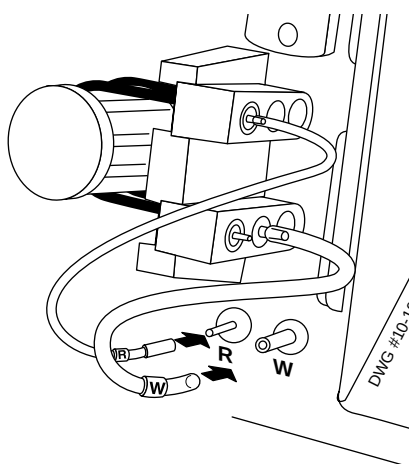

Figure 12.3 Connecting the Pump Tubing W and R-lines
10. Connect the R-pump tubing line to the R-labelled outlet below the pump manifold (see Figure 12.3).
11. Connect the W-pump tubing line to the W-labelled outlet below the pump manifold (see Figure 12.3).